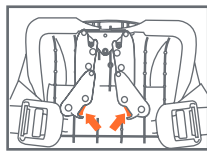

Fig. 45-1
2. Remove the Safety Seat from the base by squeezing the base release handle located under the center of the foot end of the Safety Seat and lifting upward on the Safety Seat (See Fig. 24-1). **Store both LATCH connectors as shown in Fig. 45-1.**
4. Remove the **LATCH** connectors from their storage position inside the base (Fig. 45-1). Place the Base in the rear-facing position in a forward facing vehicle seat as shown in Fig. 46-1. **The Child must face the rear of the vehicle and Safety Seat must be placed in a vehicle seat that faces forward.**